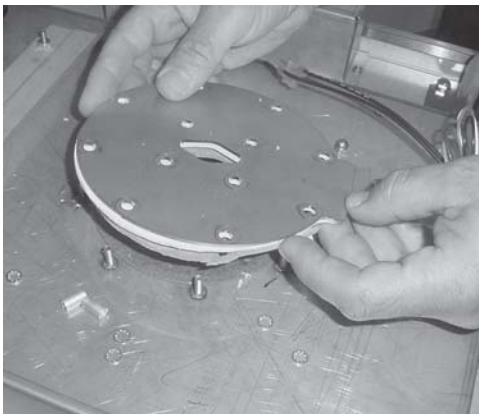

Figure 3-48
6. Pull plate and insulation from unit and discard plate and insulation. Figure 3-48.